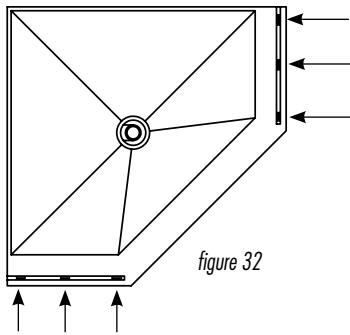

figure 32
3. You may need to use the setting blocks provided to achieve the correct positioning. The setting blocks are small, clear, plastic blocks that are in a small baggy. There are thick and thin setting blocks. Place the setting blocks into the glass channel groove, starting on the outer edges then evenly spacing them out inside the channel as shown (fig. 32).